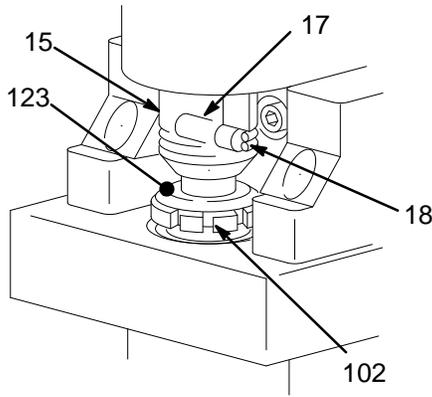

Fig. 19
Be sure the retaining spring (18) is firmly in the groove all the way around, to prevent the pin (17) from working loose due to vibration. See Fig. 19.